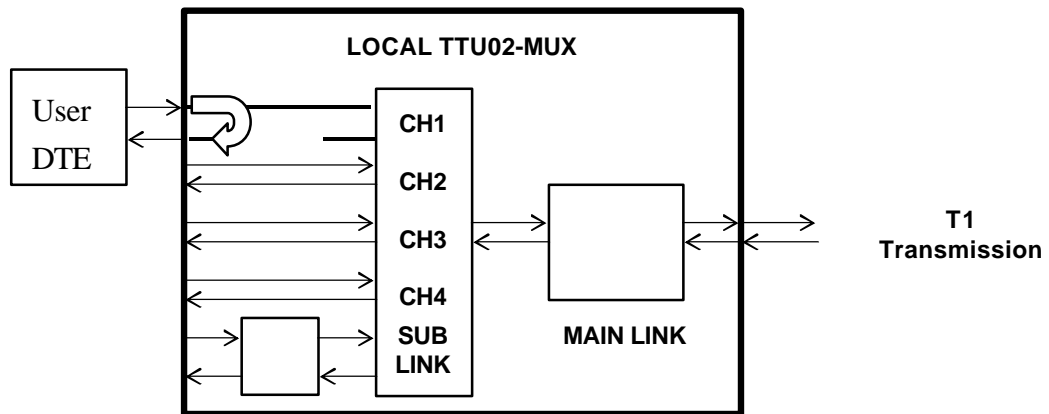

Figure 5-7. Channel local analog loopback
Channel local analog loopback is performed by connecting the data channel transmit data (TD) to the input of the receive path (RD), as shown in Figure 5-7. The test signal is provided by the local DTE.